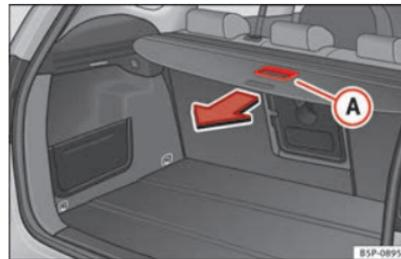

Fig. 119 Using the rear shelf.
- Use the handle  to pull the shelf back until you hear a “click” ⇒ Fig. 119.